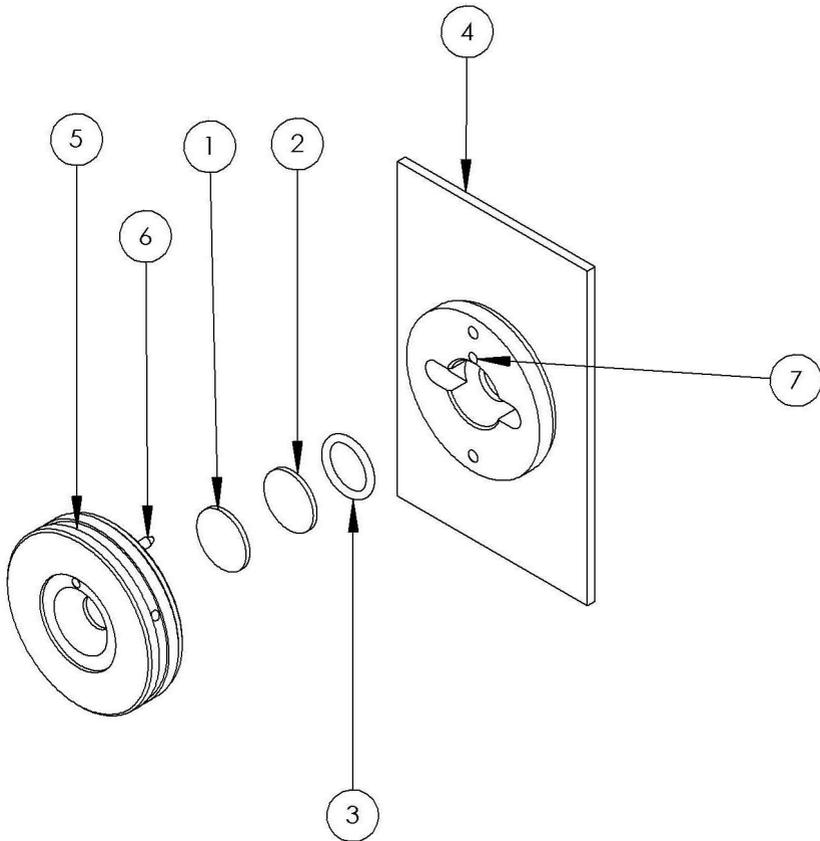

Fig. 1 – Schematic of Micro Compression Cell Components
Please refer to Fig. 1 in explanation of assembly and use of the micro compression cell.
To obtain a reference (background) spectrum, first make sure that both windows for both of their surfaces are clean. Then assemble the accessory (as shown in **Fig. 1** so that the top window (1) and bottom window (2) faces are in contact with no sample between them. The window pair rest on the O-ring (3) which is held inside the recess of the back plate (4). The window pair are to be compressed together to be held in the micro compression cell by refitting and tightening of the front cap assembly (5). When fitting the front cap (5) to tighten against